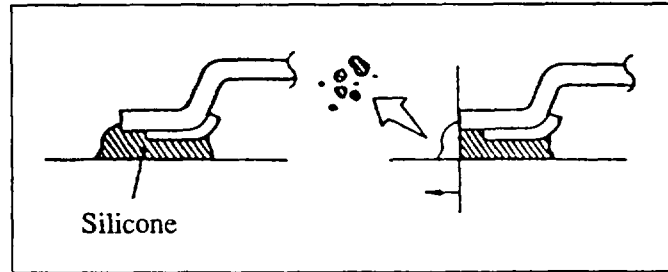

Figure 23: Excess silicone removal area
4. Remove all protruding silicone. **Figure 23.**